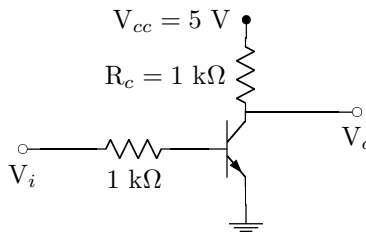

Figure 33: A transistor used as a binary switch
Use a 2N3646 NPN transistor to build the simple digital switch of Fig. 33. The operation is as follows:
1. Build the circuit of Fig. 33. Use your adjustable DC supply for V_i and the proto-board supply for V_{cc} .